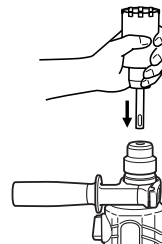
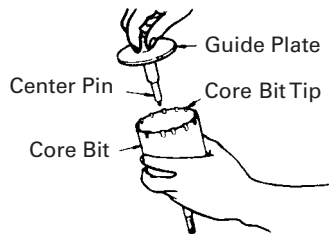

Fig. 19
Fig. 20
- (2) Mount the core bit shank to the rotary hammer. (Fig. 19)
- (3) Insert the center pin into the guide plate until it stops.
- (4) Engage the guide plate with the core bit, and turn the guide plate to left or right so that it does not fall even if it faces downward. (Fig. 20)